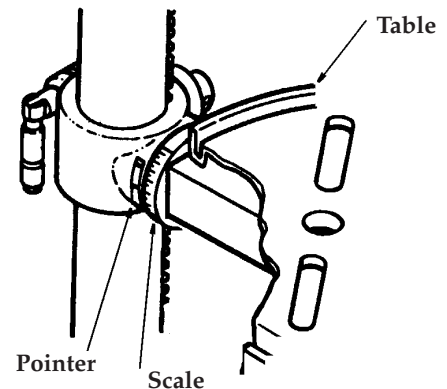

**FIGURE 19**
2. With the table raised to work height and locked to the column, place the combination square flat on the table beside the rod or drill bit.(Fig.19).